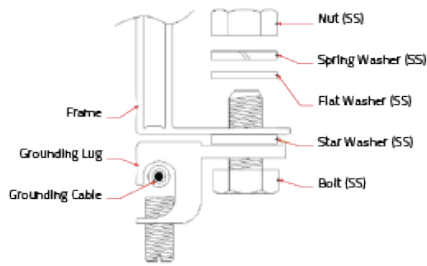

Figure 19: Schematic diagram for installation of connecting lug fitting bolt
- Installation with connecting lug fitting bolts: Firstly, strip the grounding cable head for an appropriate length. Be careful not to damage the metal wire core during stripping. Insert the stripped grounding cable head into the socket of the connecting lug, then tighten the fastening screws, and connect the connecting lug to the aluminum frame with stainless steel bolts and connectors. The installation diagram is shown in Figure 19.